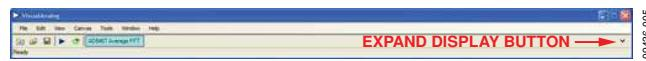
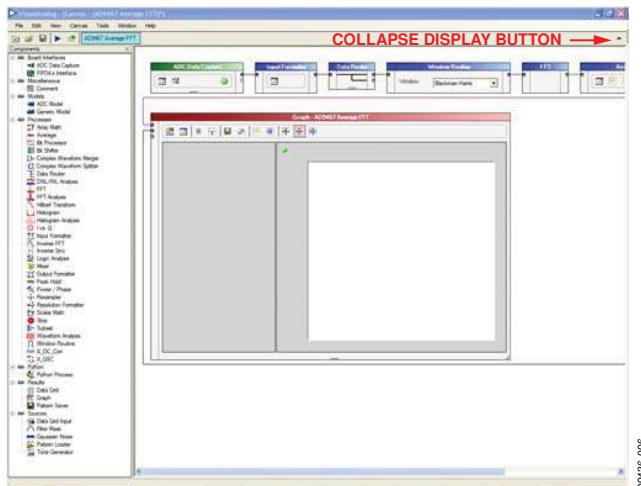
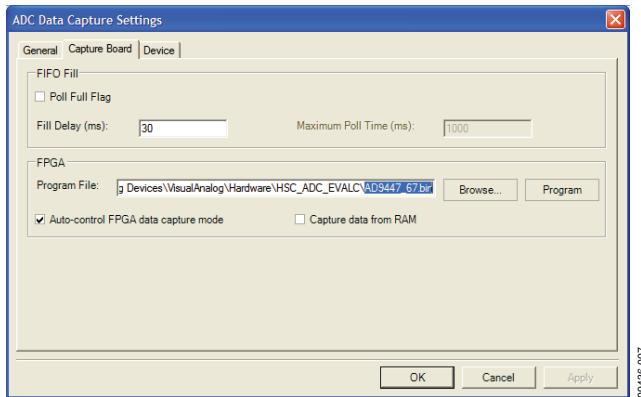

Figure 5. VisualAnalog Window Toolbar, Expand Display Button
Figure 6. VisualAnalog, Main Window Expanded Display
Figure 7. ADC Data Capture Settings, Capture Board Tab
3. To view different channels or change features to settings other than the default settings, click the **Expand Display** button located on the top right corner of the VisualAnalog window, as shown in Figure 5 and Figure 6. This process is described in the AN-905 Application Note, VisualAnalog Converter Evaluation Tool Version 1.0 User Manual. Once you are finished, click the **Collapse Display** button.
4. Program the FPGA of the HSC-ADC-EVALCZ board to a setting other than the default setting as described in Step 3. Then expand the VisualAnalog display and click the **Settings** button in the **ADC Data Capture** block (see Figure 6). The **ADC Data Capture Settings** box opens (see Figure 7).